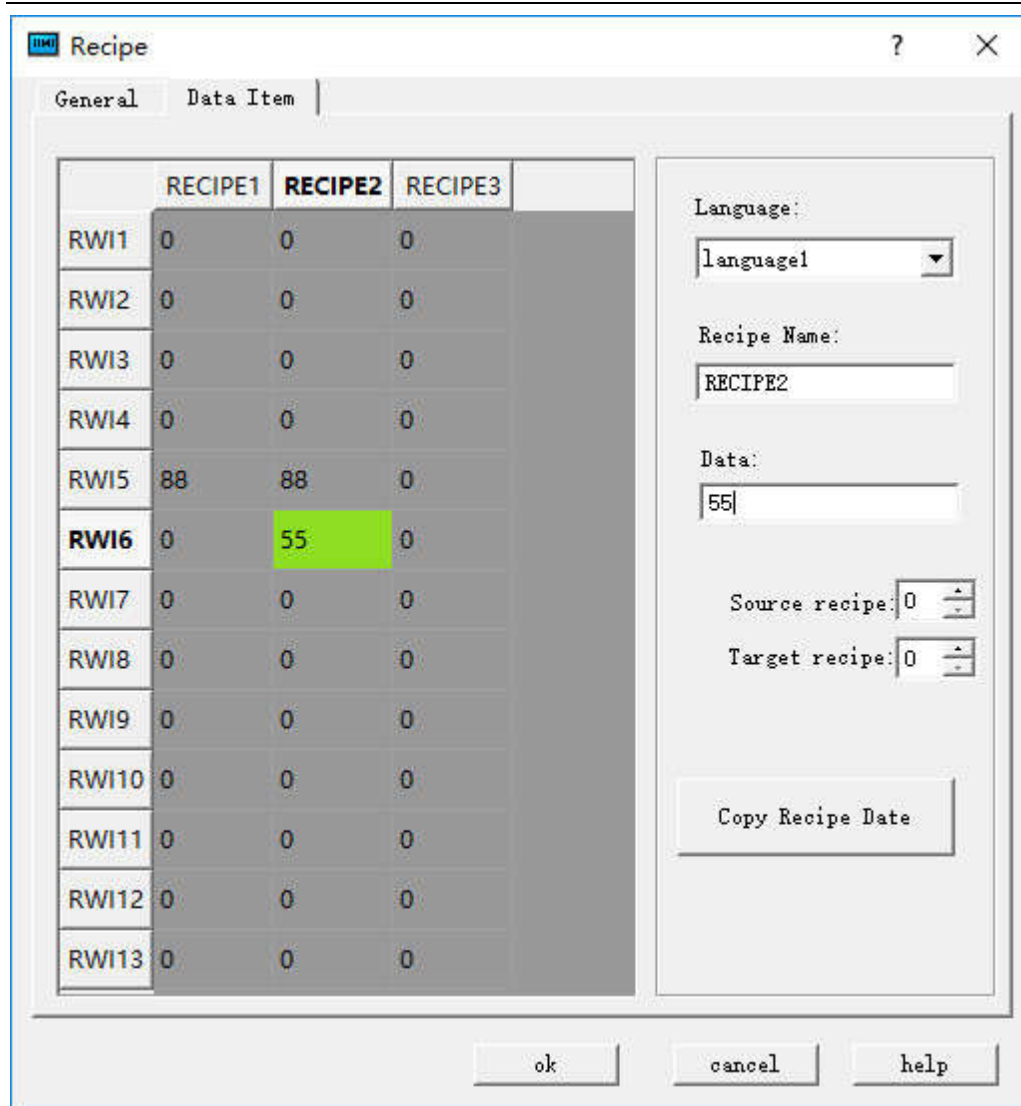

Figure 7-33 Function of recipe data copy
1. Create a recipe configuration as described above. The effect is shown in Figure 7-33: